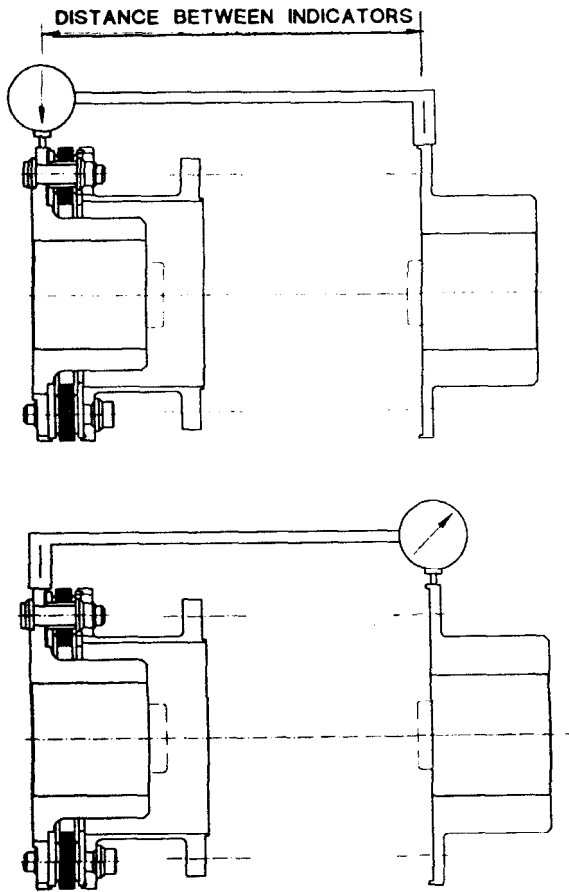

Figure 7
1. Rigidly mount a dial indicator on one hub or shaft, reading the other hub or shaft outside diameter as shown in Figure 7. Compensate for indicator set-up sag. Rotate both shafts together. Adjust the equipment by shimming and/or moving so that the indicator reading is within .001 inch per inch of axial length between indicators.
2. Reverse the set-up as shown in Figure 7 and repeat #1 above.